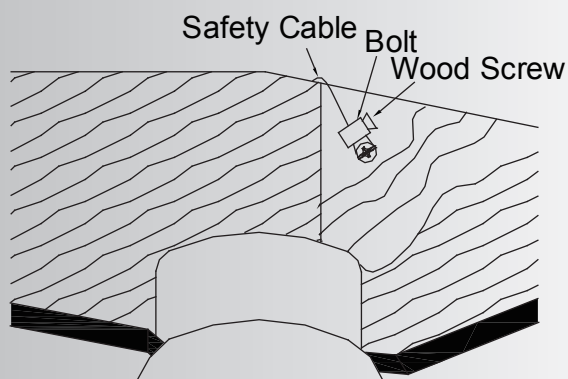

Fig. 11
Step 2. Insert the safety cable through the mounting bracket and one of the holes in the outlet box into the ceiling. Adjust the length of the safety cable to reach the screw and washers by pulling the extra cable through the cable clamp until the overall length is correct, put the end of the cable back through the cable clamp, forming a loop at the end of the cable. Tighten the cable clamp securely. Now, put the loop in the end of the safety cable over the wood screw and under the washer. Tighten the wood screw securely. (Fig. 11)